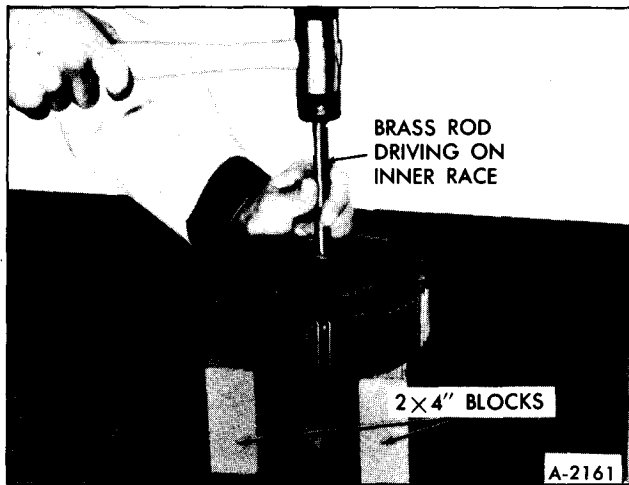

Figure 35—Removing Sprocket Bearing
c. With a hammer and brass rod, drive the inner race, alternately through each of the access openings, until the bearing assembly is removed from the sprocket hub, Figure 35.